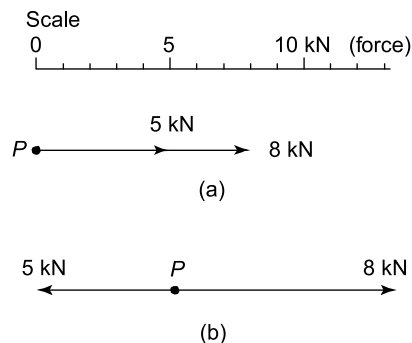

Figure 5.7
- (a) The vector diagram of the two forces acting in the same direction is shown in Figure 5.7(a), which assumes that the line of action is horizontal, although since it is not specified, it could be in any direction. From above, the resultant force F is given by: $F = F_1 + F_2$, i.e. $F = (5 + 8) \text{ kN} = 13 \text{ kN}$ in the direction of the original forces.
- (b) The vector diagram of the two forces acting in opposite directions is shown in Figure 5.7(b), again assuming that the line of action is in a horizontal direction. From above, the resultant force F is given by: $F = F_2 - F_1$, i.e. $F = (8 - 5) \text{ kN} = 3 \text{ kN}$ in the direction of the 8 kN force.